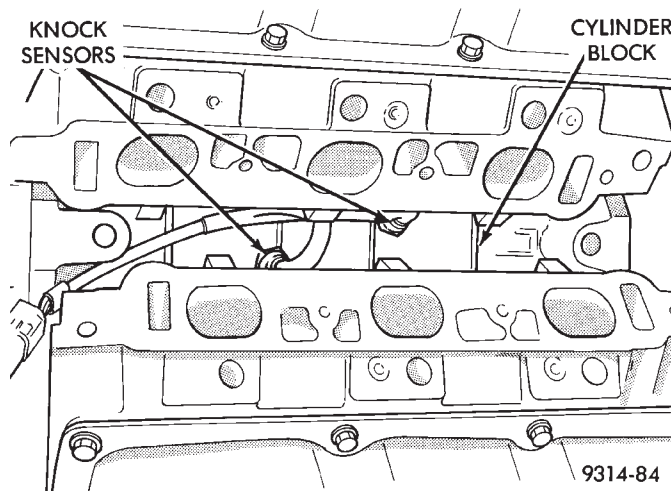

Fig. 43 Knock Sensor—3.5L Engine
- (1) Remove intake manifold plenum. Refer to Intake Manifold Plenum in Group 11.
- (2) Remove intake manifold. Refer to Group 11.
- (3) Disconnect electrical connector from knock sensor(s) (Fig. 43).
- (4) Use a crows foot socket to remove the knock sensors.